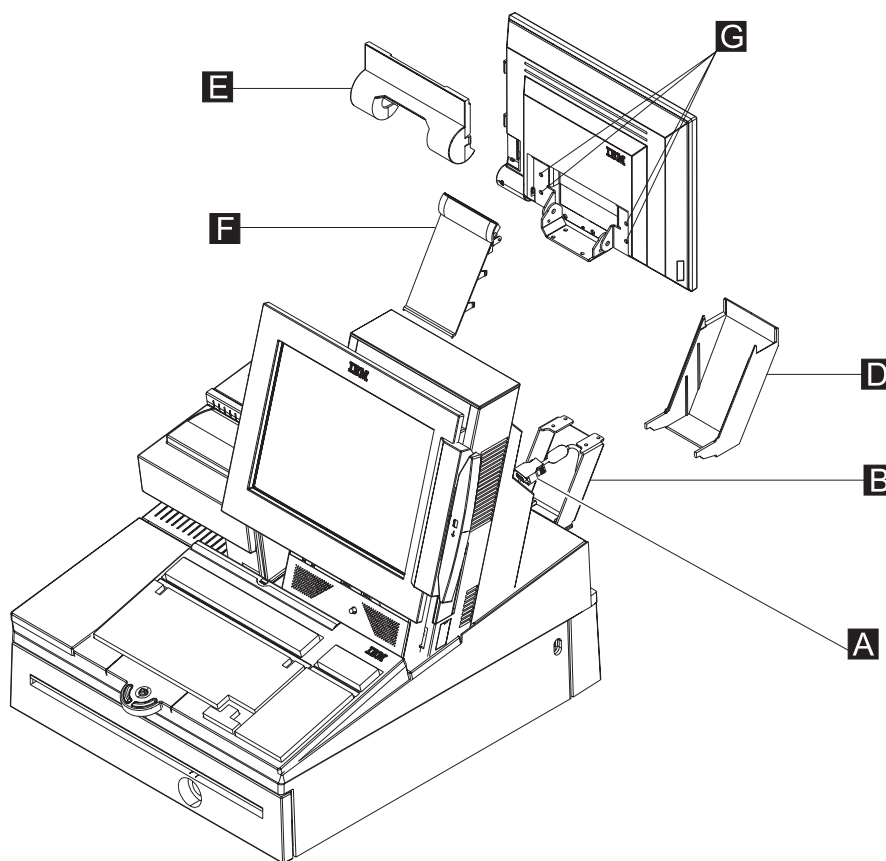

Figure 105. Removing the 4820 SurePoint Solution cable and covers
3. Remove 4820 filler panels **D**, **E**, and **F** as show in Figure 105.
4. Disconnect the 4820 display cable **A** from the external video connector on the 4820 and from the rear connector panel of the SurePOS 500 Models 5x3 and 544/564, as show in Figure 105.